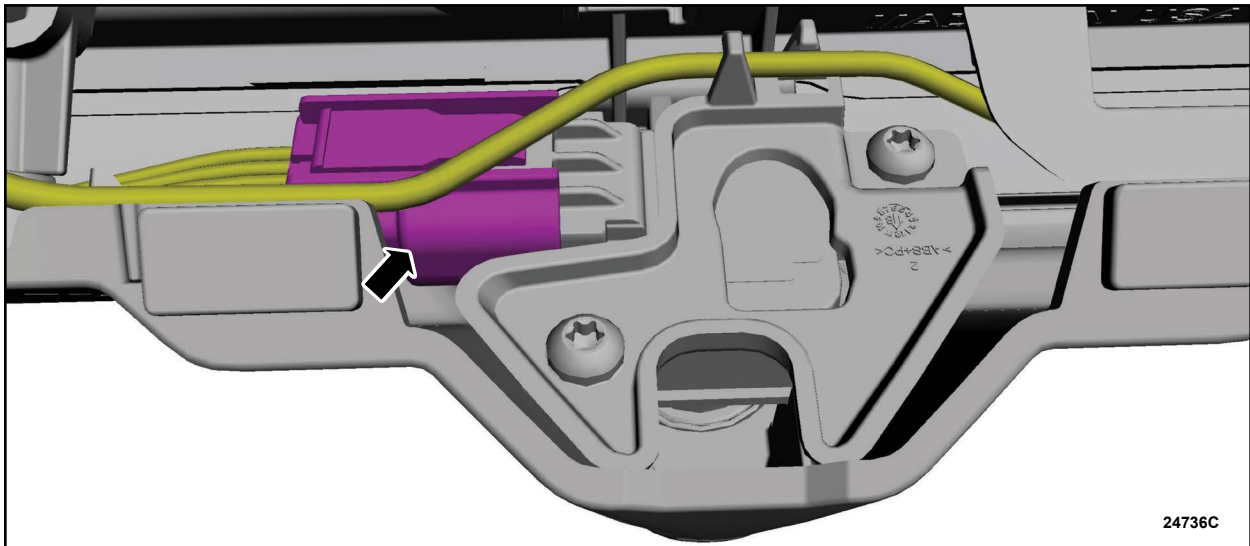

FIGURE 3
4. Disconnect the camera electrical connector and position the wiring harness aside. See Figure 3.